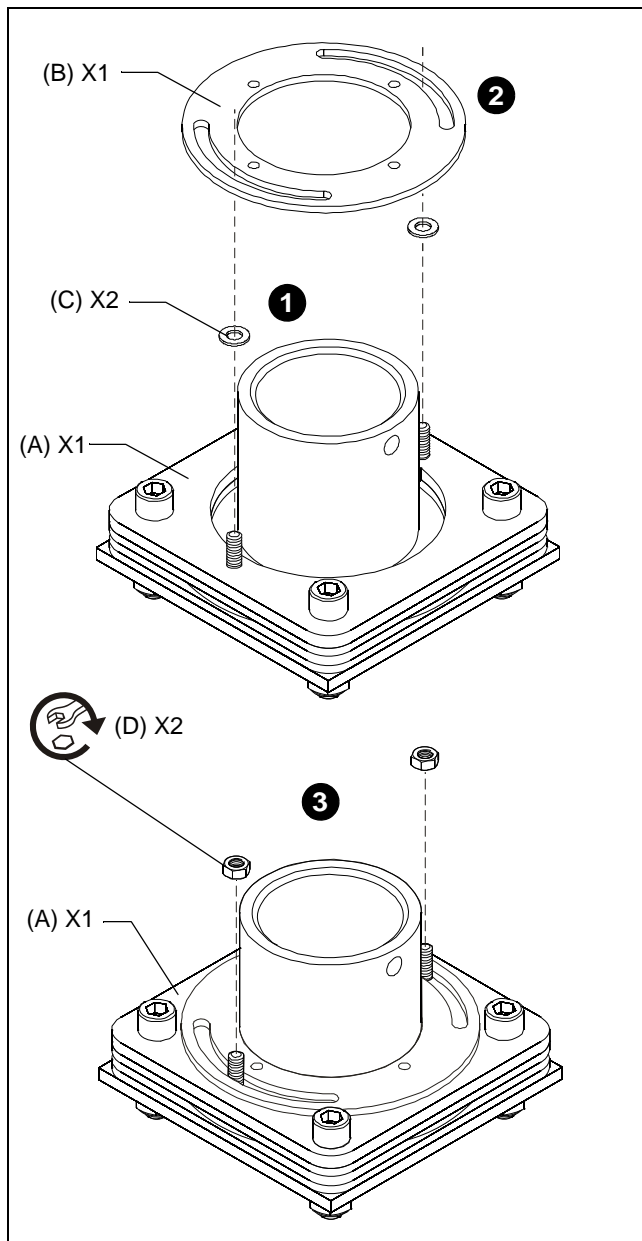

Figure 1
1. Place one Nylon washer (C) over each stud on Swivel Adapter (A). (See Figure 1)
2. Align slots in stop plate (B) with two threaded studs on Swivel Adapter (A). (See Figure 1)
3. Secure Stop plate (B) to Swivel Adapter (A) using two lock nuts (D). (See Figure 1)